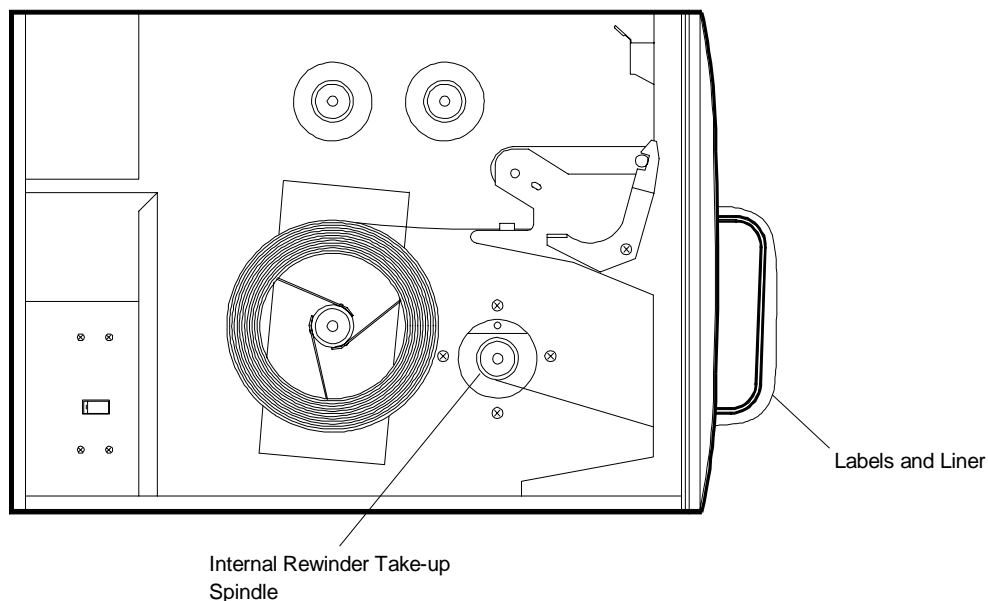

Figure 4-16 Loading Labels for the Internal Rewinder in Standard Print Mode
- Route the leading edge of the label strip downward from the label exit slot, past the front panel label guide, into the label release paper slot (see Figure 4-16), and between the bar and plate in the lower media guide.